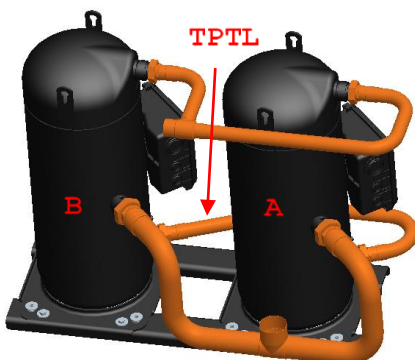

Figure 2: Tandem with 3-tube design (TPTL)
- **TPTL – Two-phase Tube Line (Fig. 2):** By centring the TPTL on the oil level line, both gaseous refrigerant and liquid oil can flow through the pipe. Simultaneous balance of internal gas pressure and oil level is intended.